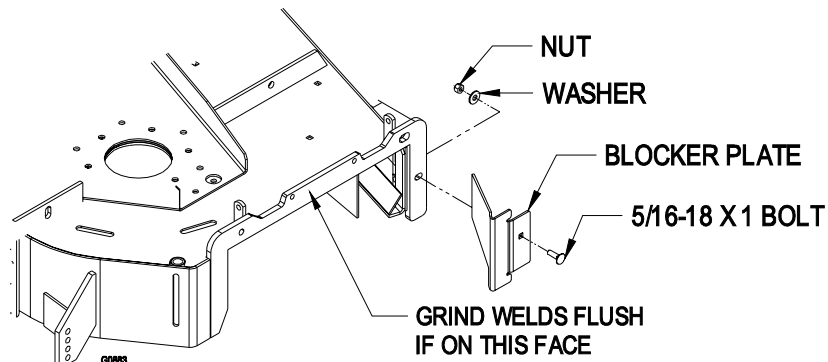

FIGURE 8
For Triton decks only: Install the blocker plate (item 17) as shown in Figure 8.
Check the discharge opening on the deck for protruding welds. Any welds left protruding from the face of the discharge opening could interfere with free operation of the discharge gate. Remove the discharge chute and gate linkage assembly from the deck and grind welds flush as shown in Figure 8. Reinstall gate linkage assembly and discharge chute.